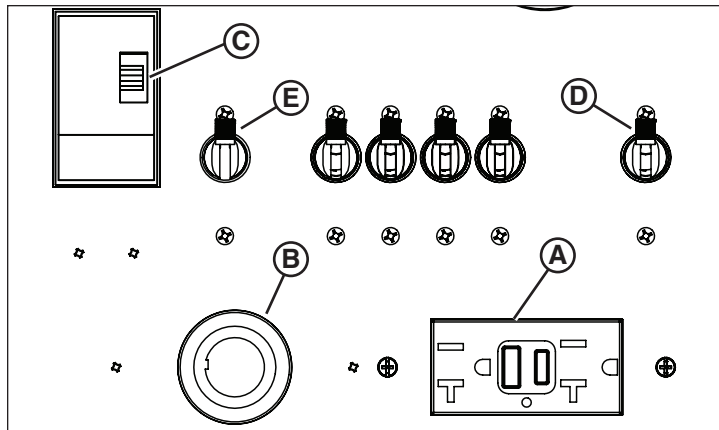

Figure 20
The control panel is equipped with a standard GFCI outlet (A, Figure 20) and an optional Twistlock outlet (B).
Power is supplied to the outlet(s) only when the engine is running and the main circuit breaker (C, Figure 20) is in the ON position.
Each outlet is protected by a dedicated circuit breaker: 20 amp for GFCI (D, Figure 20), 30 amp for Twistlock (E).